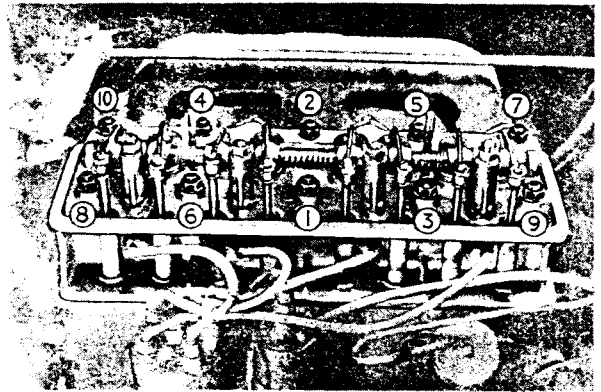

FIG. 22
5. Mount cylinder head over studs and tighten nuts over washers gradually in order shown in Fig. 22 to a torque wrench reading of 60—65 ft. lbs. (8.25—8.95 m.kg.)